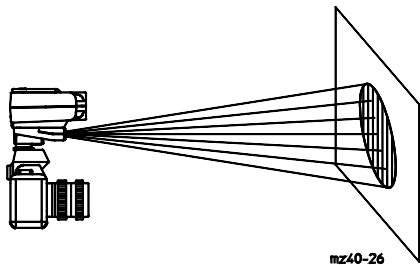

Fig.27: The AF measuring beam
As the release or other sensory control of the camera is operated, the integrated AF measuring beam ⑧ is automatically activated in the event of low lighting levels or with a low-contrast subject. The measuring beams project a light pattern onto the subject (Fig. 27). The camera's autofocus system uses the light reflected from the subject to measure image sharpness and focus the lens. The range of the AF measuring beam ⑧ is approx. 9 m with a 50 mm f/1.7 lens.